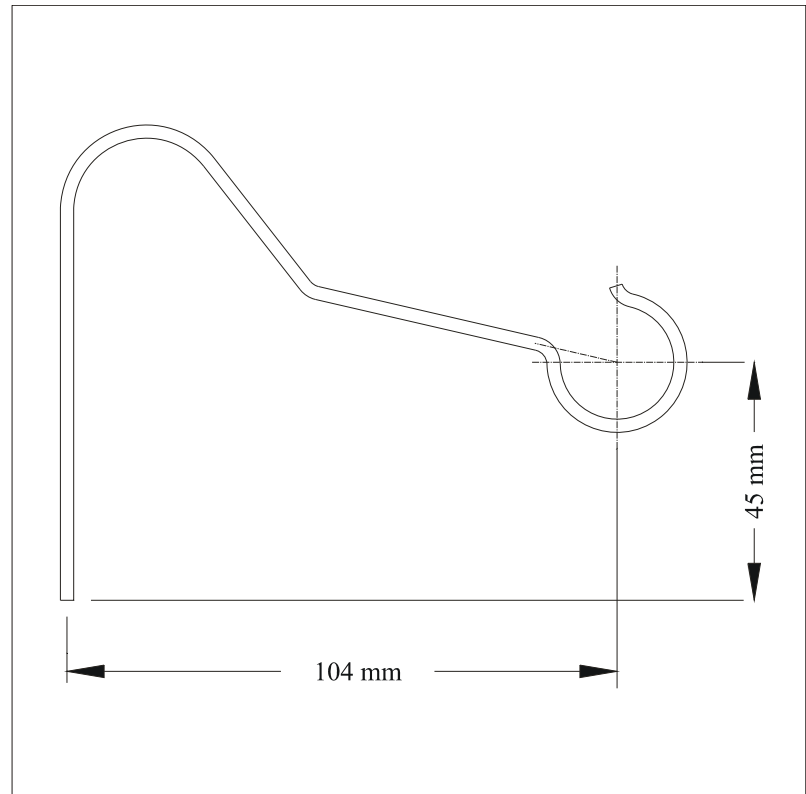

Figure 16 Float Wire Adjustment
Figures 16 and 17 are mirror inverted also valid for the float wire in the RH wing tank if the optional MVP-50P is installed.
- 2 Remove the float wire and bend it in form like shown in the following Figure 16: